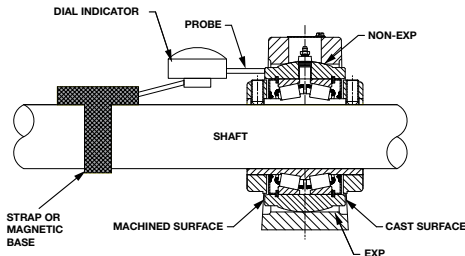

Figure 2 - Dial indicator mounting position
5. Mount a dial indicator on the shaft near the non-expansion (fixed) bearing. Place the indicator probe so that it contacts the machined surface of the S-1 Unit Housing perpendicular to that surface. See Figure 2. Note that only one face of the S-1 Unit is a machined face.